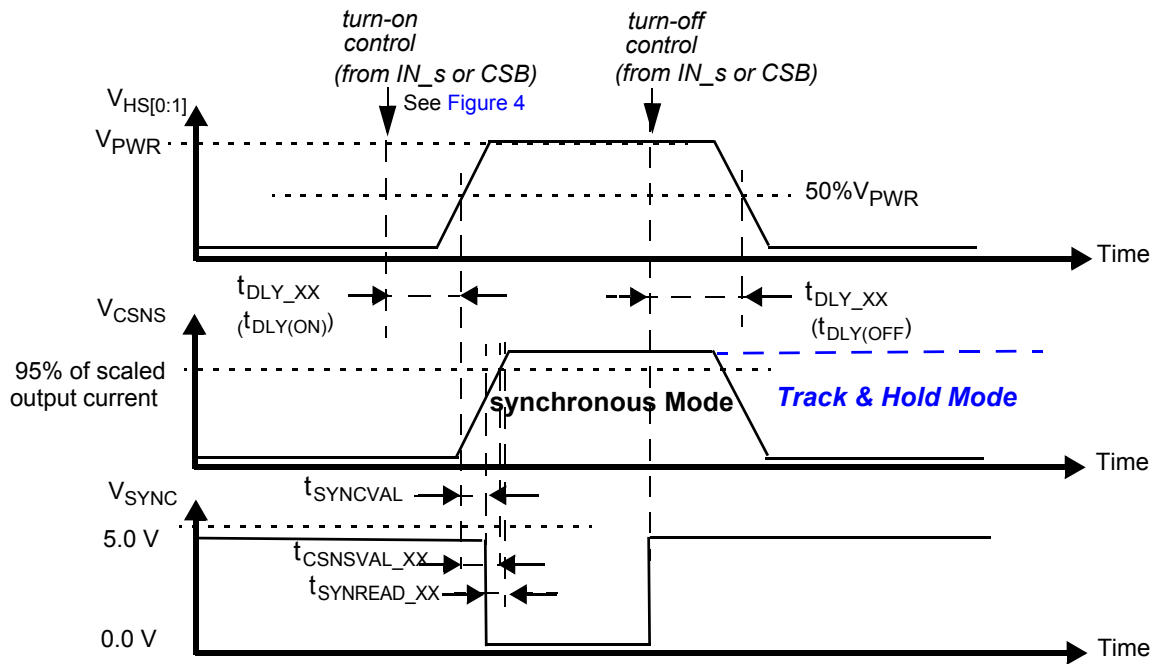

Figure 9. Synchronous and track-and-hold current sensing modes: associated delay and settling times
30. Time required to switch off the channel after detection of overtemperature (OT), overcurrent (OC), SC or UV error (time measured between start of the negative edge on the FSB pin and the falling edge on the output voltage until $V(\text{HS}[0:1]) = 50\%$ of V_{PWR}).
31. Settling time (= $t_{\text{CSNSVAL_XX}}$), SYNC output signal delay (= $t_{\text{SYNCVAL_XX}}$) and Read-out delay (= $t_{\text{SYNREAD_XX}}$) are defined for a stepped load current (100 mA < $I(\text{LOAD})$ < $\text{IOCLX A FOR CSNS_RATIO_S} = 1$, AND 300 mA < $I(\text{LOAD})$ < IOCLX A_0 FOR $\text{CSNS_RATIO_S} = 0$). (see Figure 9 and Output current monitoring \(CSNS\))
The CS pin allows independent current monitoring of channel 0 or channel 1 up to the steady-state overcurrent threshold. It can also be used to sense the device temperature. The different functions are selected by setting bits CSNS1_en and CSNS0_en to the appropriate value (Table 23). When the CSNS pin is sensed during switch-off in the (optional) track & hold mode (see Figure 9), it outputs the scaled value of the load current as it was just before turn-Off. When several devices share the same pull-down resistor, the CSNS pins of devices the current of which is not monitored must be tri-stated. This is accomplished by setting CSNS0_en = 0 and CSNS1_en = 0 in the GCR register (Table 10). Settling time ($t_{CSNSVAL_XX}$) is defined as the time between the instant at the middle of the output voltage's rising edge ($HS[0:1] = 50\%$ of V_{PWR}), and the instant at which the voltage on the CSNS-pin has settled to $\pm 5.0\%$ of its final value. Anytime an overcurrent window is active, the CSNS pin is disabled (see Overcurrent detection on resistive and inductive loads). The current and temperature sensing functions are unavailable in Fail-safe mode and in Normal mode when operating without the V_{DD} supply voltage. In order to generate a voltage output, a pull-down resistor is required ($R(CSNS)=1.0\text{ k}\Omega$ typ. and $470 < R(CSNS) < 10\text{ k}$). When the current sense resistor connected to the CSNS pin is disconnected, the CSNS voltage is clamped to $V_{CL(CSNS)}$. The CSNS pin can source currents up to about 5.6 mA.
To synchronize current sensing with an external process, the SYNC signal can be connected to a digital input of an external MCU. SYNC is asserted logic low when the current sense signal is accurate and ready to be read. The current sense signal on the CSNS pin has the specified accuracy $t_{SYNCREAD_XX}$ seconds after the falling edge on the SYNC pin (Figure 9) and remains valid until a rising edge is generated. The rising edge that is generated by the SYNC pin at the turn-OFF instant (internal or external) may also be used to implement synchronization with the external MCU. Parameter $t_{SYNCVAL_XX}$ is defined as the time between the instant at the middle of the output-voltage rising edge ($HS[0:1] = 50\%$ of V_{PWR}), and the instant at which the voltage on the SYNC-pin drops below 0.4 V (V_{SOL}). The SYNC pins of different devices can be connected together to save μ -controller input channels. However, in this configuration, the CSNS function of only one device should be active at a time. Otherwise, the MCU does not determine the origin of the SYNC signal. The SYNC pin is open drain and requires an external pull-up resistor to VDD.